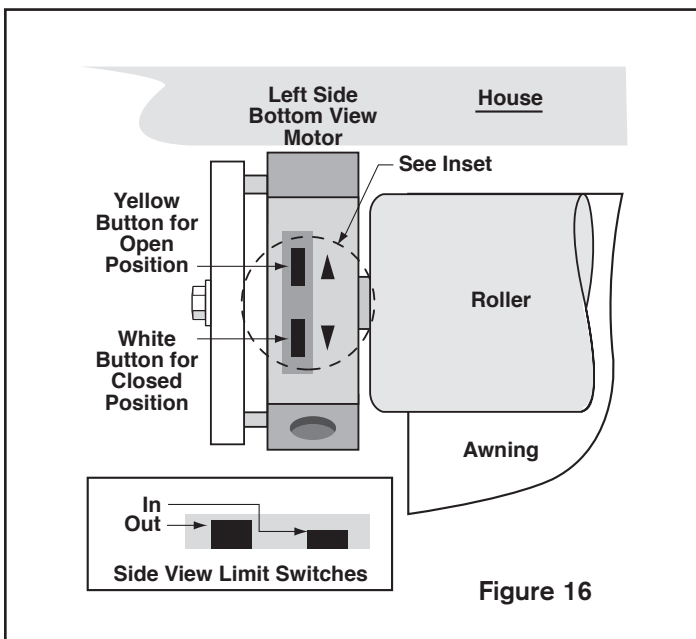
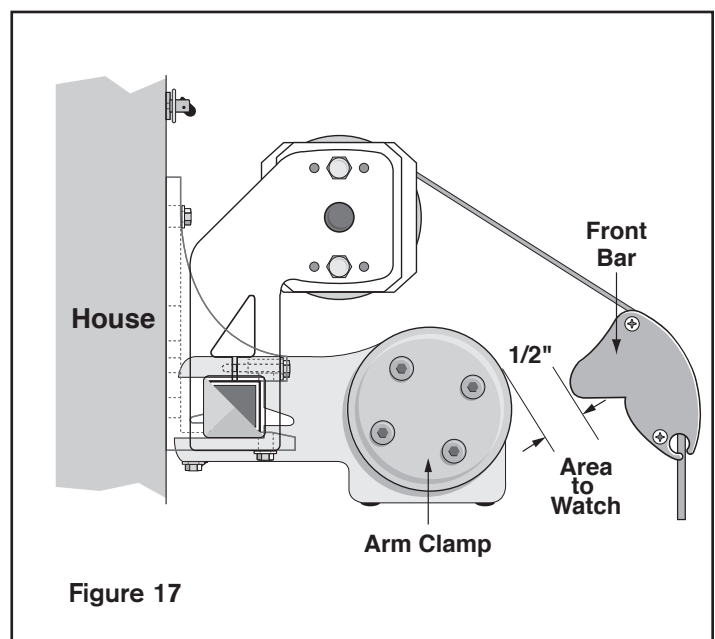

Figure 16
Figure 17
23. While your helper checks that there is no gap between the Roller Bracket and the Roller Cap in the Roller Bar (see **Figure 16**), tighten the Retaining Bolt on the Roller Bracket attached to the Gear with a 13 mm or ½" wrench. See **Figure 17**.
16. From a stepladder locate the limit push buttons on the motor. These push buttons will be on the underside of the motor housing. – see Figure 16.
18. Clear the Factory Settings by separately pressing both buttons (white and yellow) until they are both '**IN**' or at their lowest point inside the recessed area of the motor housing –see figure 16. You should practice this a few times to understand this process.
21. Manually roll the awning up until it is almost completely closed. The area to watch is where the front bar almost touches the round side of the arm clamp – see figure 17. Leave about 1/2" gap between the front bar and the round side of the arm clamp.